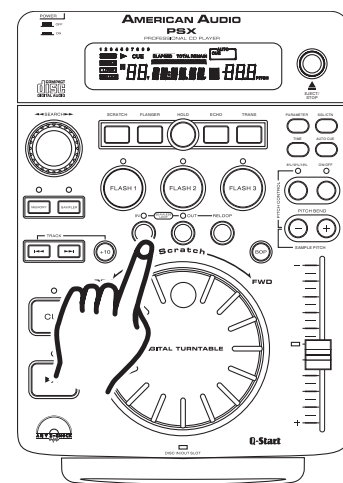

Figure 15
A cue point is the exact point playback will begin when the *PLAY/PAUSE* (15) is pressed. You may set your cue points anywhere on a disc or in a track. You may set up to four independent cue points per disk. Three cue points are stored in the *FLASH BUTTONS* 1-3 (6) and one is shared by the *IN BUTTON* (12), *BOP BUTTON* (20) and the *CUE BUTTON* (13). There are two (2) ways to set and create a CUE point as detailed in figures 15 and 16
- 1) You may press the *IN BUTTON* (12) on the fly (while the disc is playing). This will set a CUE Point without music interruption. Pressing the *CUE BUTTON* (13) will now return you to the same point that you pressed the *IN BUTTON* (12). You may now store this CUE Point in any of the *FLASH BUTTONS* 1-3 (6). Pressing the *CUE BUTTON* (13), *BOP BUTTON* (20) or the *IN BUTTON* (12) will now return you to this exact point.